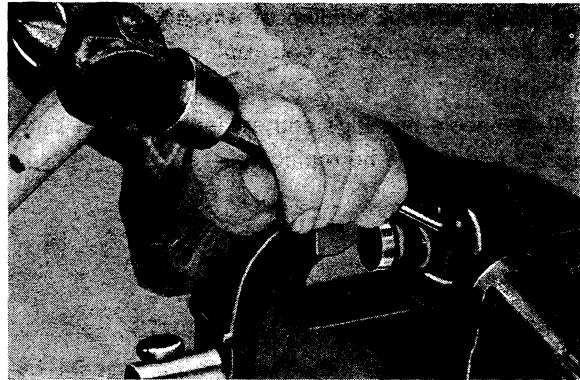

Fig. 4-121. Removing spider, I
4. Then drive the spider as far as it will go in the opposite direction, see Fig. 4-121.